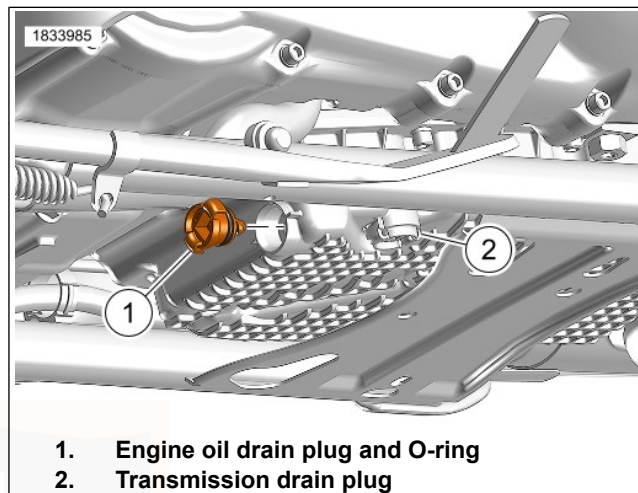

Figure 85. Oil Drain Plug
- a. See Figure 85. Locate engine oil drain plug and O-ring (1).